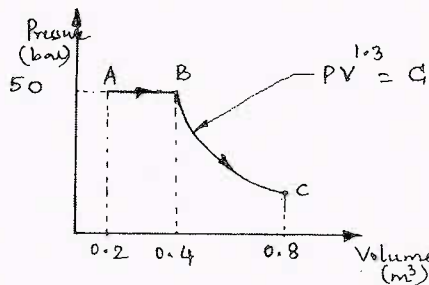

Fig Q2(b)
- b. Determine the total work done by a gas system following expansion process as shown below: Fig Q2(b).